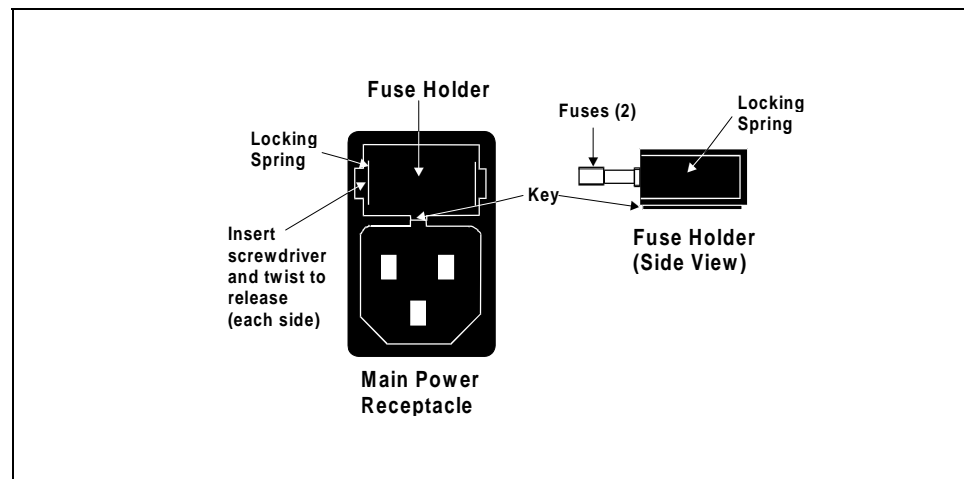

Figure 5-5. Main Power Fuse Holder
2. The fuse holder is part of the main power receptacle on the rear panel. A recessed lock is located on each side of the fuse holder (see Figure 5-5). Using a small screwdriver, push each lock toward the center to release it. The fuse holder pops out approximately 0.16 cm ($\frac{1}{16}$ in) when the locks release. When both locks are released, pull the fuse holder straight out of its compartment.